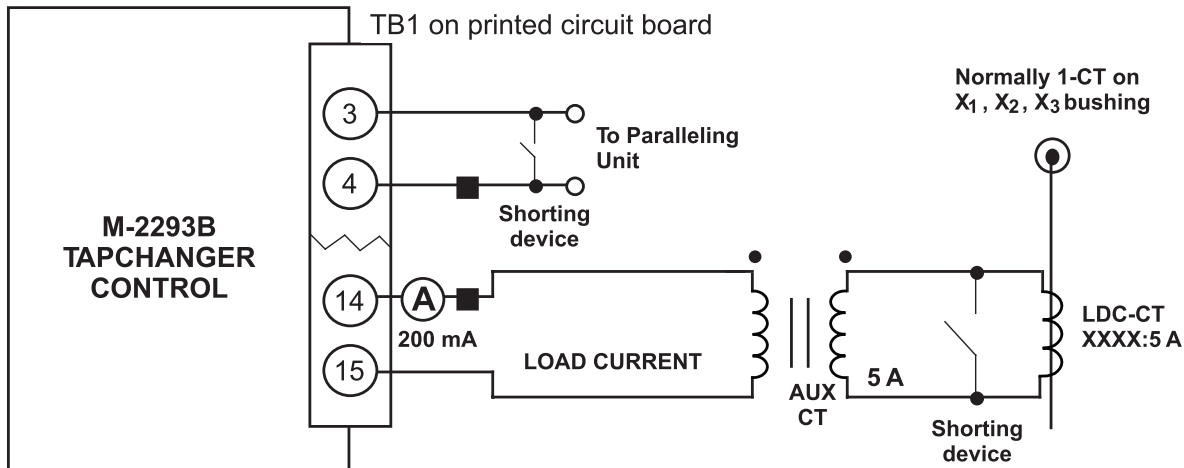

Figure 12 M-2293B Setup for Current Checkout Procedure
1. Short the line drop compensator circuit by placing a shorting device of adequate capacity, across the LDC-CT secondary (See Figure 12).